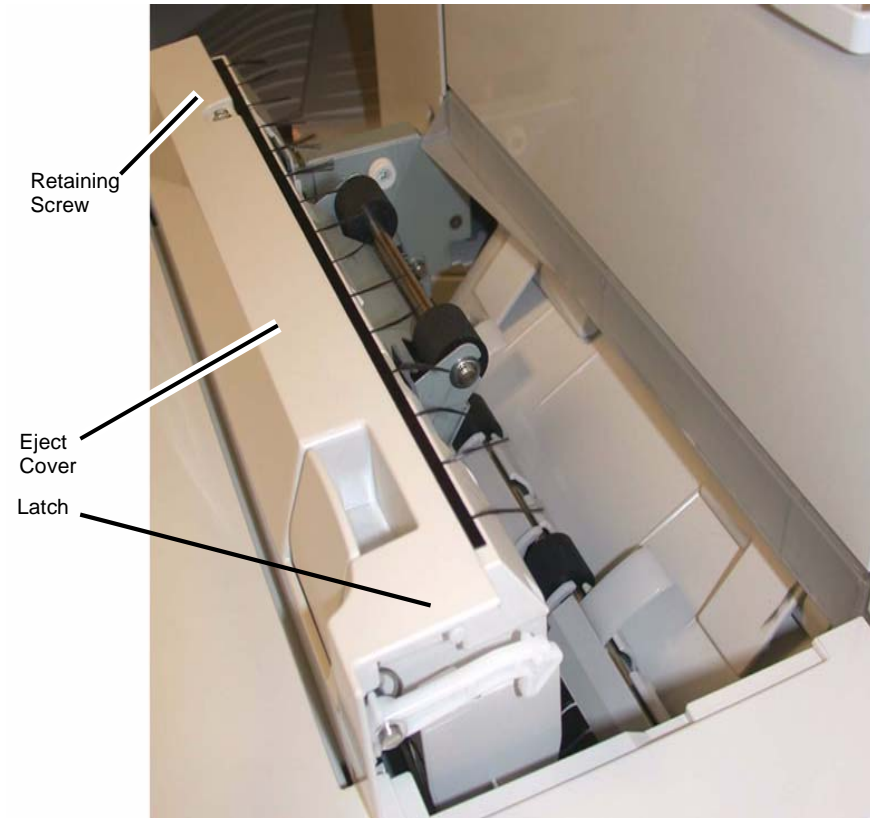

Figure 1 Removing the Eject Cover
2. Remove the Eject Cover (Figure 1).